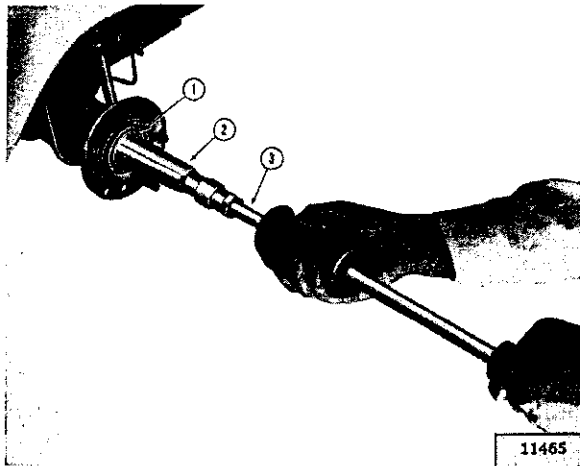

FIG. N-5—REMOVING TAPERED AXLE SHAFT
- i. Using Tool C-637 and Adapter Tool SP-342, remove the axle shaft bearing cone, roller, and cup as shown in Fig. N-5.